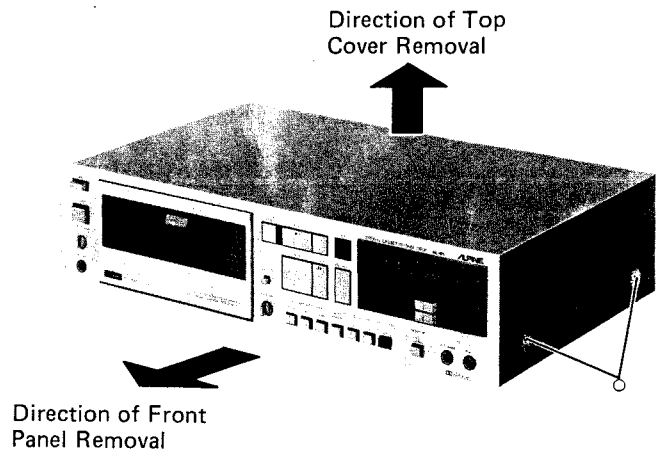

Figure 3
- (1) Remove four screws marked "○" as shown in Figure 3 and 4.
- (2) Lift up the top cover in the direction of the arrow in Figure 3.
- (4) Remove the front panel from the main chassis in the direction of the arrow as shown in Figure 3.